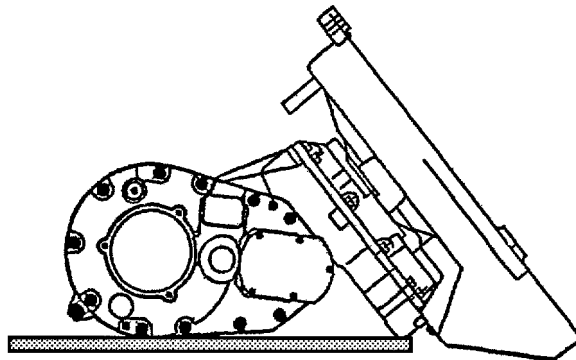

Figure 1 How to position the foot when dismantling axes 1, 2 and 3.
8. Place the remaining parts of the manipulator upside-down on a table or similar surface and remove the bottom plate <1/5>. See Figure 1.